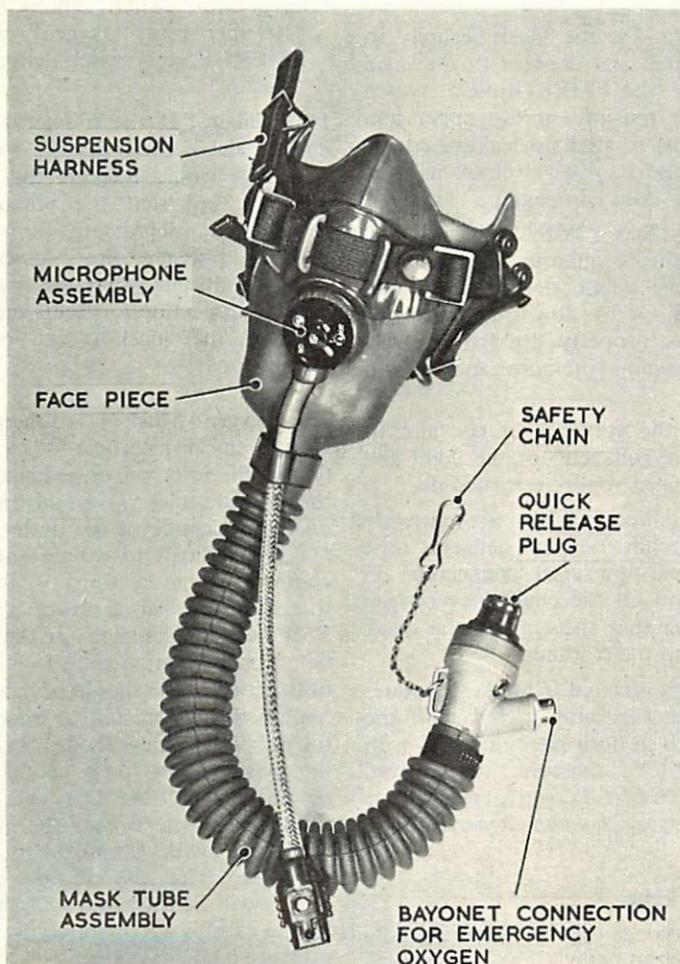

Fig. 3. Oxygen Mask, Type A-13A/1.
4. Masks of types A-13A and A-13A/1 (Fig. 3) consist of a face-piece complete with mask tube assembly. The face-piece contains two inlet check valves, a compensated outlet valve, and a microphone. Attachment to the helmet is by an adjustable webbing harness. The flexible corrugated rubber tube from the face-piece is fitted with a quick-release plug which connects to the main